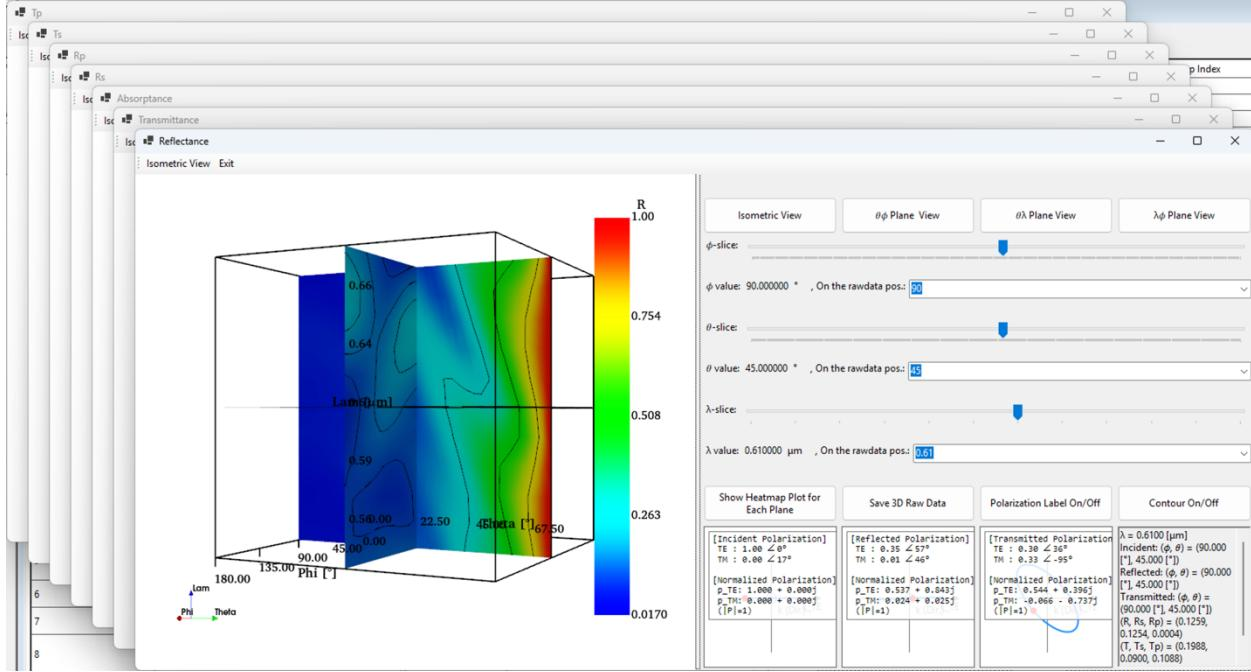

Figure 22. Windows showing visualized results related to each title
2. After the simulation is complete, the result windows will appear as shown in Figure 22. Titles of all windows are 'Reflectance', 'Transmittance', 'Absorptance', 'Rs', 'Rp', 'Ts', and 'Tp', respectively.
**Notation:** Subscript 's' denotes s-polarized (TE) and 'p' denotes p-polarized (TM). Since we set up TE mode in this tutorial, by following scientific convention, 'Rs', 'Rp', 'Ts', and 'Tp' are